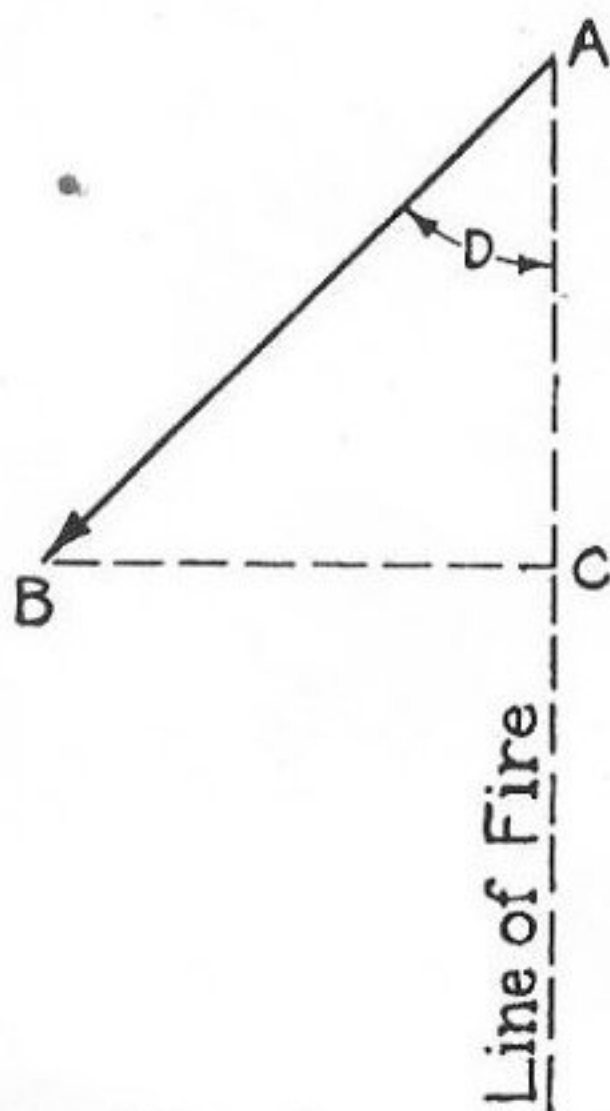

Fig. 1.
22. The sketch Fig. 1, shows a vector, AB, the length of which represents the enemy's assumed speed and the position represents his course. The angle D is the so-called target angle. This vector can be resolved into components, BC at right angles to the line of fire and AC in the line of fire.